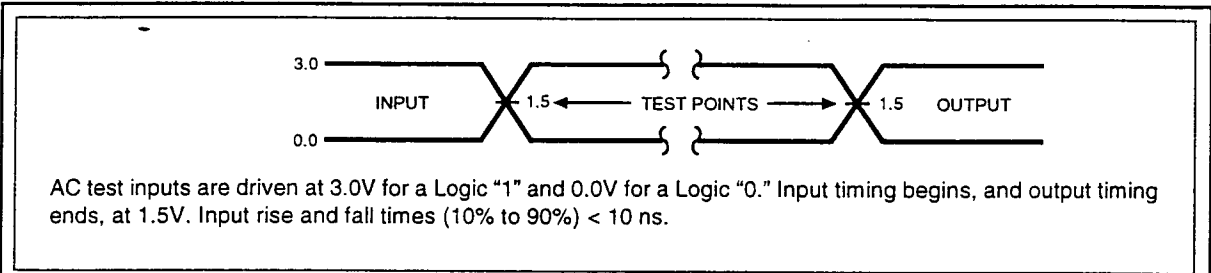

Figure 4. Transient Input/Output Reference Waveform ( $V_{cc} = 5.0V$ )
1. See AC Input/Output Reference Waveforms for timing measurements, Figure 4.